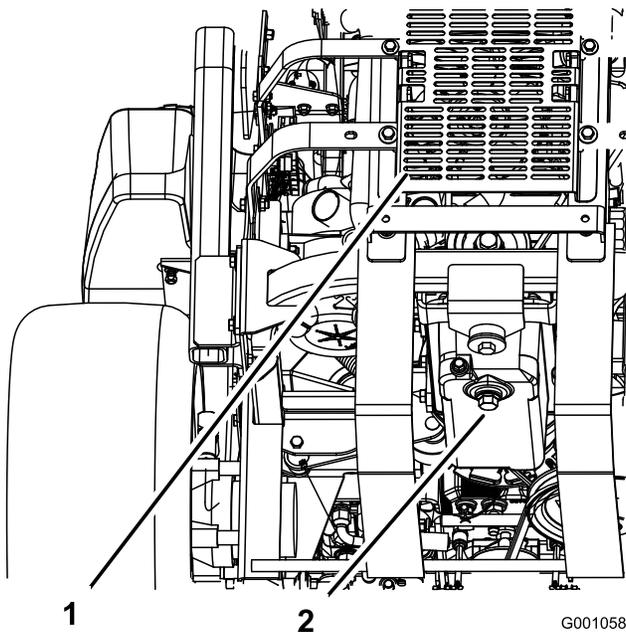

Figure 62
5. Place a pan below the oil drain. Remove the drain plug and let the oil drain completely (Figure 62).